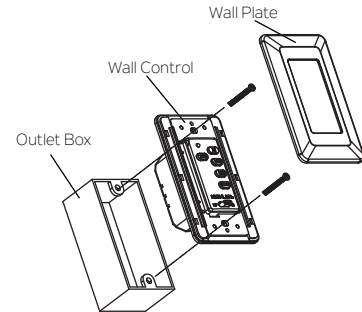

Fig. 19
Step 2. Use the screws provided to secure the wall control to the outlet box.(Fig. 19)